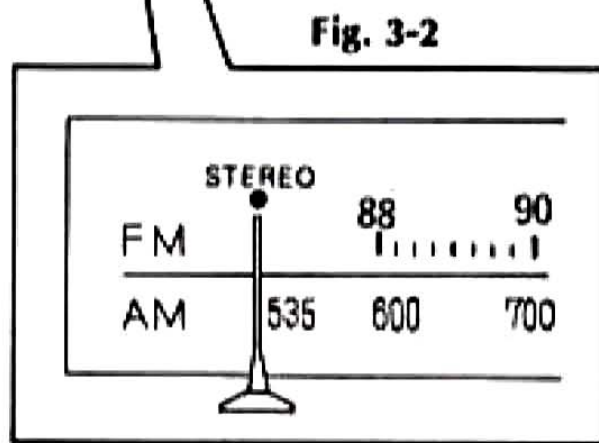

Fig. 3-2
- 2) Set the dial pointer to the Stereo Indicator on dial scale as Fig. 3-2.